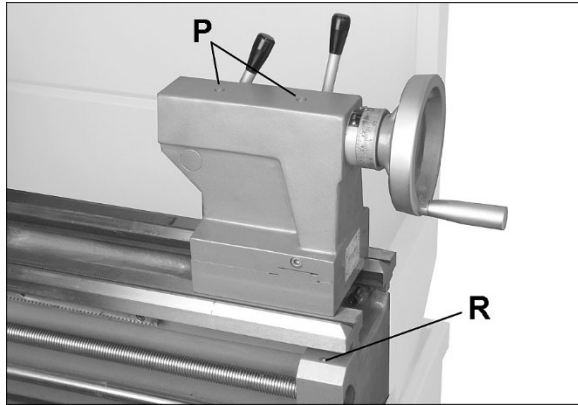

Figure 7-6
10. **Tailstock** – Daily lubricate two ball oilers (P, Figure 7-6) on top of tailstock.
- Leadscrew** – Lubricate ball oiler (R, Figure 7-6) once daily.